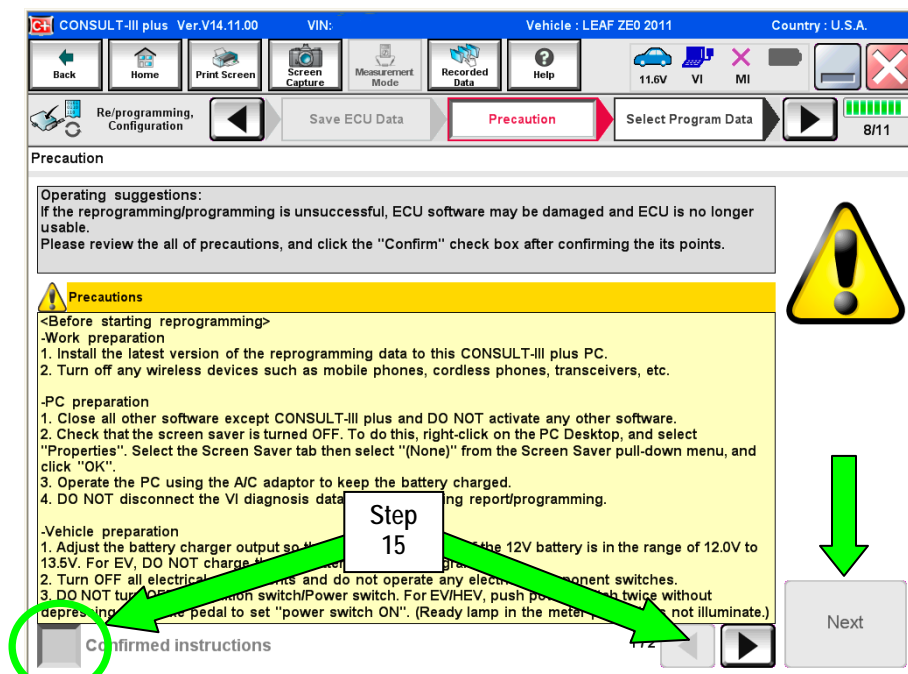

Figure 9
15. Read the precautions on page 1 shown in Figure 9, and then select page 2 with arrow (page 2 not shown). After reading page 2, select **Confirmed instructions**, and then select **Next**.